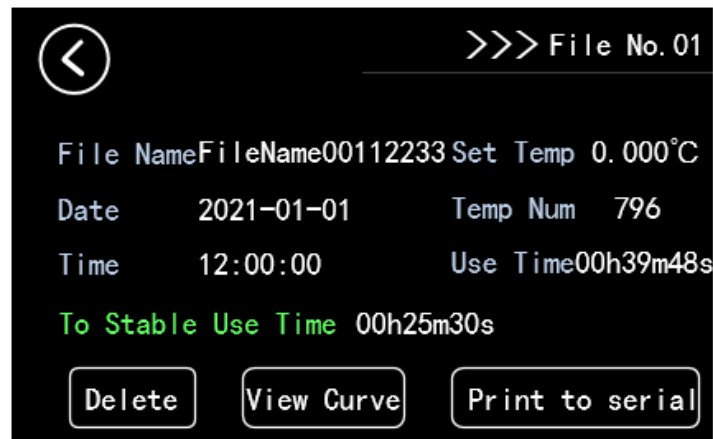

Fig 4.14 Temperature Control Files
**Temperature control file:** Displays the file name, file number, date and time, temperature setting, number of temperature points, total temperature control time, and time when the temperature control reaches stability. If the file is empty, nothing is displayed. See Figure 4.14.